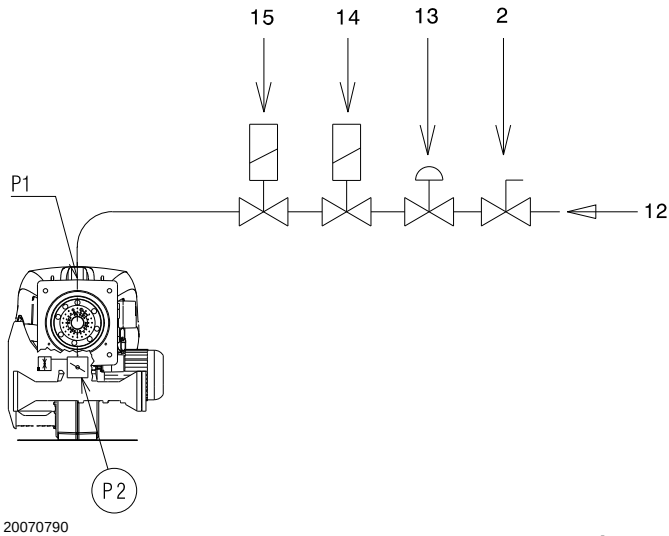

Fig. 31
Gas pressure measured at test point P1)(Fig. 31), with:
Pressure loss at gas butterfly valve P2)(Fig. 31) with maximum opening: 90°.
- subtract the combustion chamber pressure from the gas pressure measured at test point P1)(Fig. 31).
To calculate the required gas pressure at test point P1)(Fig. 31), set the maximum modulating output required from the burner operation:
- Read, on the right (column 1), the pressure at the test point P1) (Fig. 31).
pressure required at test point P1)(Fig. 31).
Key (Fig. 31)